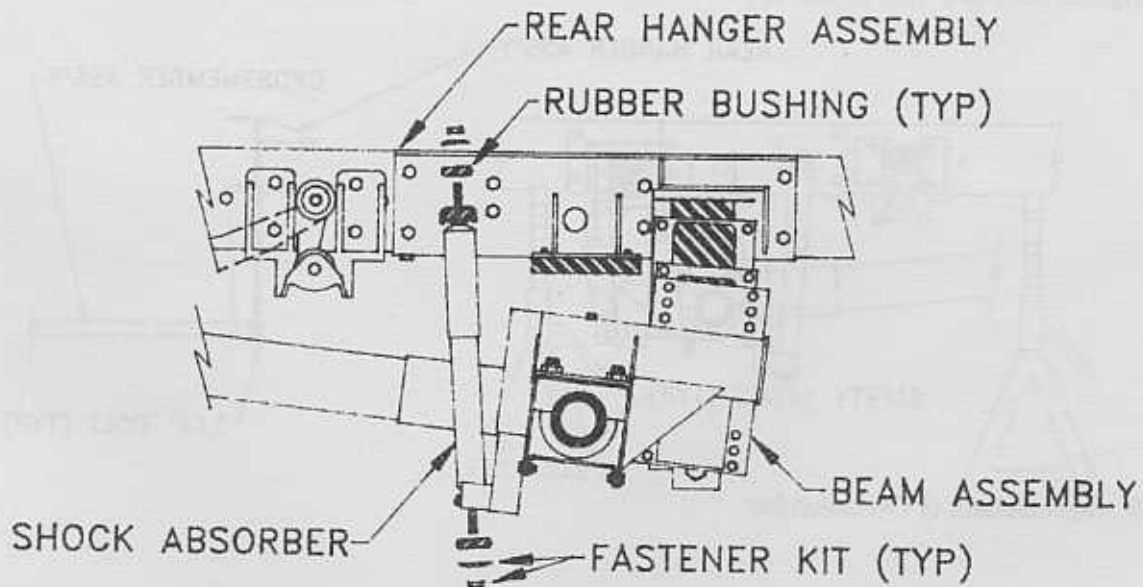

Figure 6: Replacement of Shock Absorber
- 1.) Remove shock fasteners and rubber bushings shown in Figure 6.
- 9.) Remove shock fasteners and rubber bushings at bottom of shock absorber (See Figure 6). Compress shock absorber to clear lower mount.